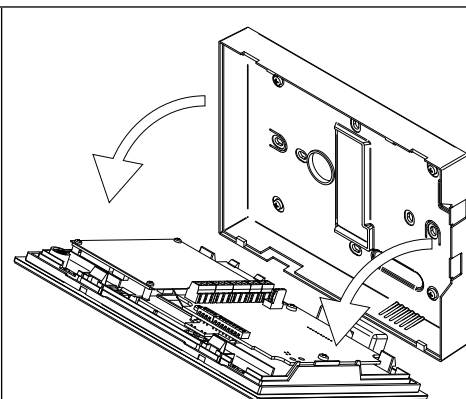

Fig. 3
1. To install the videophone, it is necessary to remove the back cover. Apply pressure to the two clips indicated by the grey arrows (**Fig. 1**) using fingers (**Fig. 2**) while lightly pulling the upper part in the direction of the white arrows (**Fig. 3**).